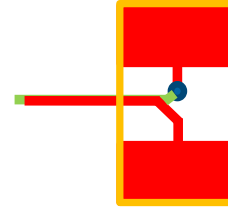

FIGURE 68. RECOMMENDED LAYOUT PATTERN FOR CURRENT SENSE TRACES REGULATOR
12. The current-sensing traces must be laid out very carefully because they carry tiny signals with only tens of mV. For the current-sensing traces close to the power sense resistor ( $R_{SENx}$ ), the layout pattern shown in Figure 68 is